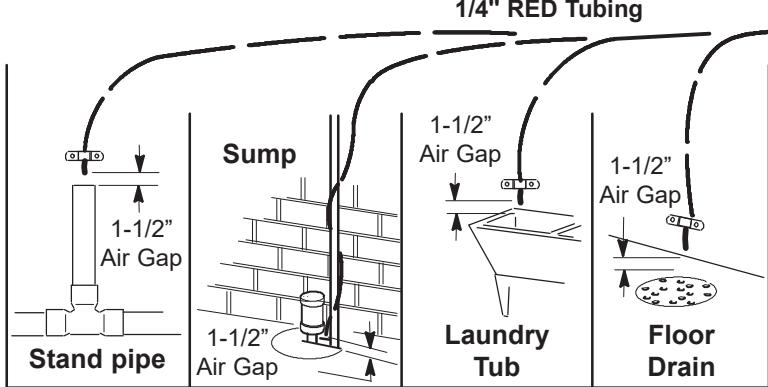

FIG. 11
Route the drain tubing to an existing drain in the house. A floor drain, laundry tub, standpipe, sump, etc. are suitable drain points. See Fig. 11. This type of drain is the preferred over the p-trap drain adapter.
- Route the tubing to the drain point and secure at the end with a bracket (not included). See Fig. 11. Provide a 1-1/2" air gap between the end of the tube and the drain. See Fig. 11.